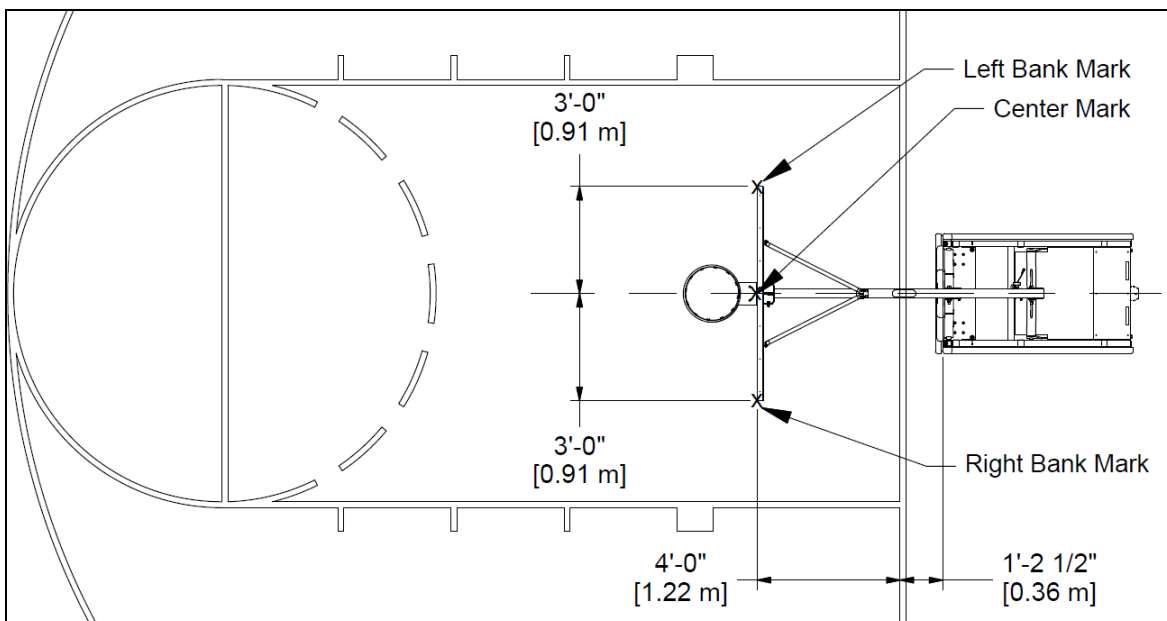

Figure 6 (Model 9172 dimensions shown)
7. Using masking tape and pencil, Mark the location of the center of the court 4'-0" from the inside edge of the court baseline (refer to figure 6). From this center mark, establish marks to be used to align the face of bank to the court.